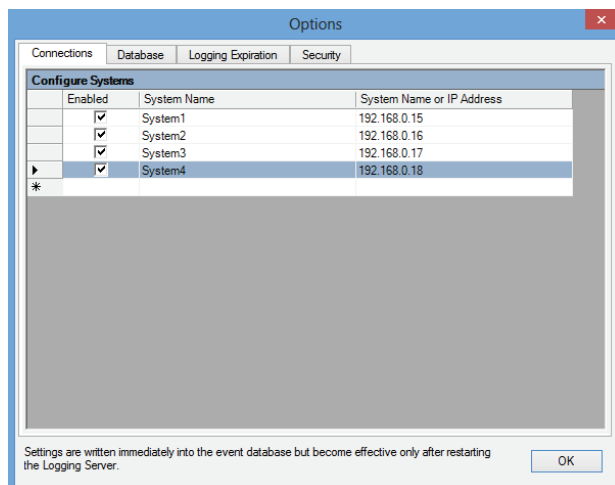

figure 58.9: Delete a system (1)
- 1 Click the field in front of the row that contains the system. For example, *System 4* (see figure 58.9).